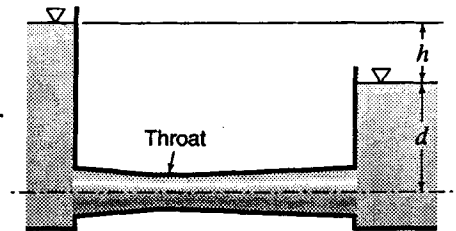

Figure P5.26
5.31 In Fig. P5.26 neglect all head losses except at discharge, and assume water is flowing. If  $h = 4$  m and  $d = 5.5$  m, find the highest permissible water temperature in order that there be no cavitation. The throat diameter is 70 percent of the pipe diameter where it joins the downstream tank. Atmospheric pressure is 97 kPa abs.